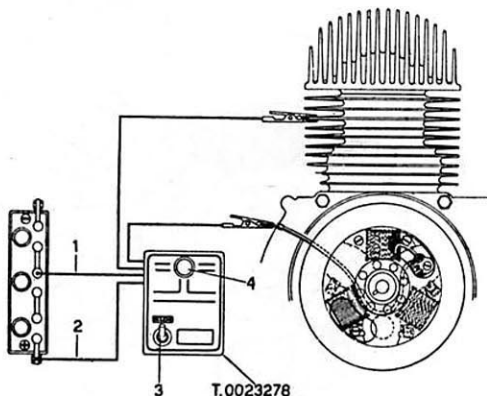

Fig. 78
The new tool T.0023278 (see Fig. 78) shows exactly, without any need of a test stand, when breaker points begin to open; this is essential for obtaining the perfect timing of flywheel.
3. Connect the cables "1" (green) and "2" (red) of the tool with a 4V direct current source, as indicated in Fig. 78. This voltage can be obtained from just two cells of a Vespa battery.